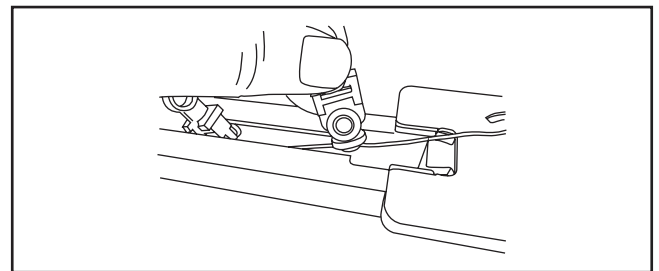

Figure 2.3.3 - Add or remove string carriers
3.3 - For carriers that are strung together, the entire string will need to be changed if more or less carriers are desired (dictated by carrier string spacing). Contact Current Products Corp. customer support for details. See Figure 2.3.3.